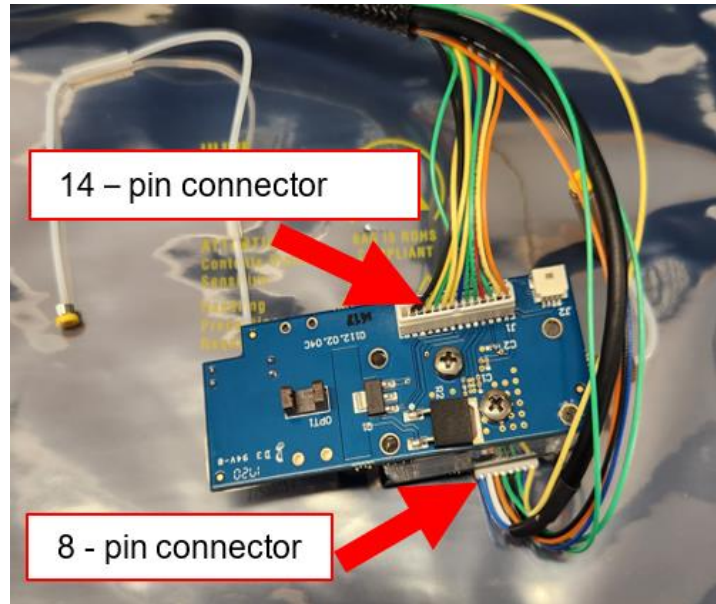

Figure 30
6.2. Connect Analog wire to the connectors shown in Figure 30.